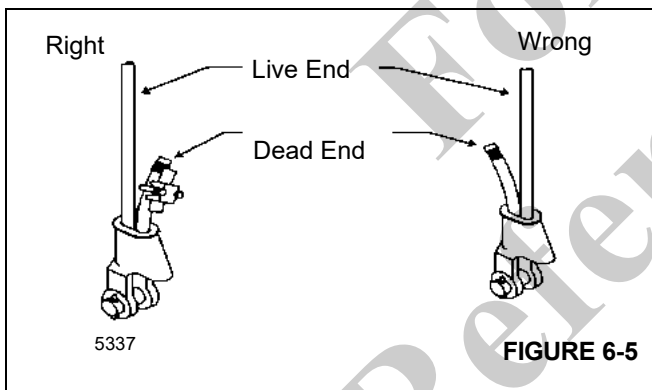

FIGURE 6-5
3. Make sure the live-loaded side (Figure 6-5) of the rope is directly in line with the ears of the socket and the direction of pull to which the rope will be subjected. If the rope is loaded into the socket incorrectly, under a load the rope will bend as it leaves the socket, and the edge of the socket will wear into the rope causing damage to the rope and eventual failure.
4. Insert the end of a wire rope into the socket, form a loop in the rope, and route the rope back through the socket allowing the "dead" end (Figure 6-5) to protrude from the socket. Make sure that the dead end of the rope is of sufficient length to apply end treatment to the dead end after the wedge has been seated.